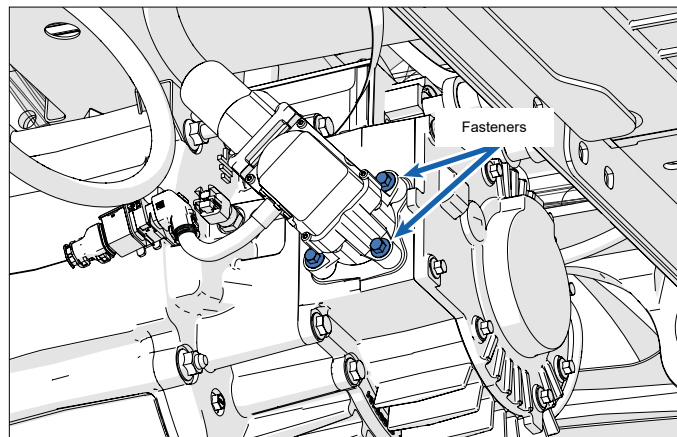

Figure 5 - Shift actuator bolts
2. Remove the three bolts retaining the shift actuator (**Figure 5**).